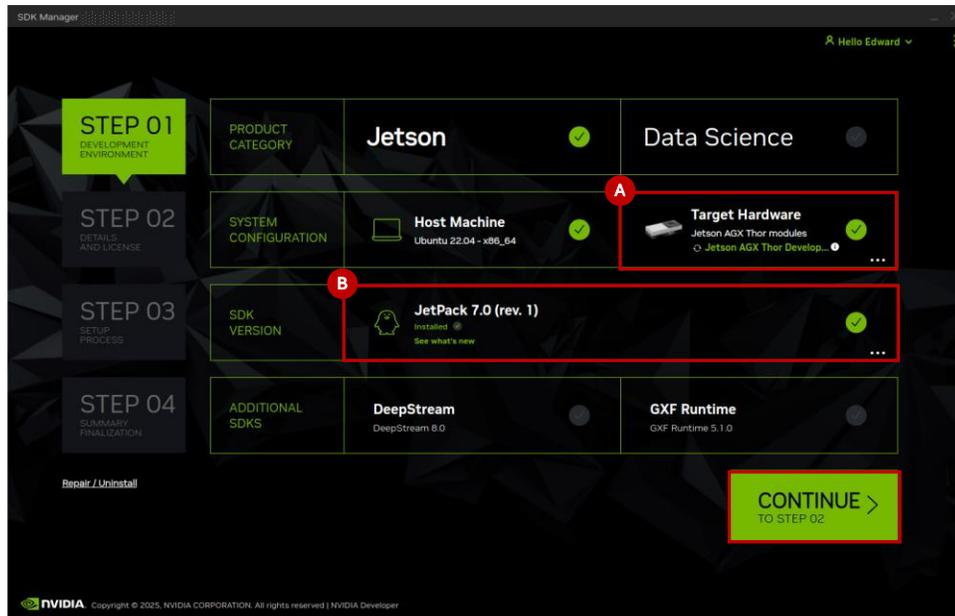

Figure 6.16. STEP 01 – Development Environment
- Select **Jetson AGX Thor Development** as the **Target Hardware** (see letter **A** in Figure 6.16). Verify that the Jetson AGX Thor module is detected. If the module is not detected, repeat the Recovery mode step. Set the SDK version to **JetPack 7.0 (rev. 1)** (see letter **B** in Figure 6.16). Click **CONTINUE** to proceed to **STEP 02 – Details and License**.